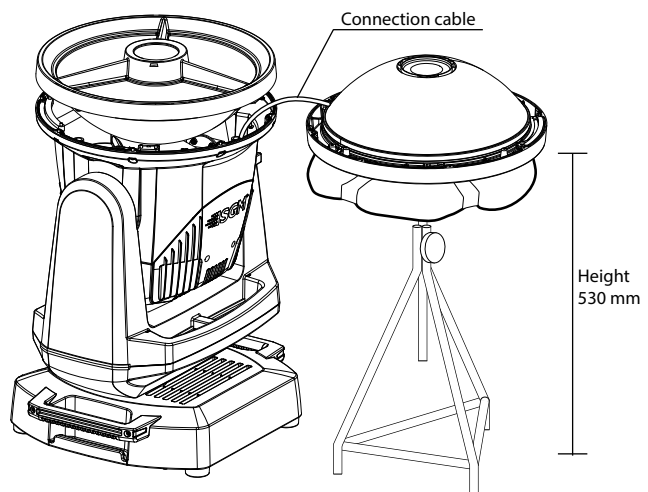

Figure 15
4. Place the front ring with the lens facing down over the elevated flat, clean and scratch-free surface. Notice that the electrical wire connecting the light source to the head is short and located left of the tilt lock (figure 15). Avoid touching the reflector, and cover it with a dust-free cloth.